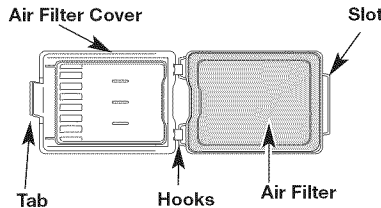

Fig. 23
1. Open the air filter cover. Push the tab on the left side of the cover in, swing the air filter cover out, and off the air filter housing (Fig. 23).
2. Remove the air filter (Fig. 23).
6. Replace the filter (Fig. 23).
7. Reinstall the air filter cover. Position the tabs on the sides of the air filter cover onto the slots at the top of the back plate (Fig. 23).
8. Push the cover in until the tab on the air filter backplate snaps into place in the slot on the air filter cover (Fig. 23).